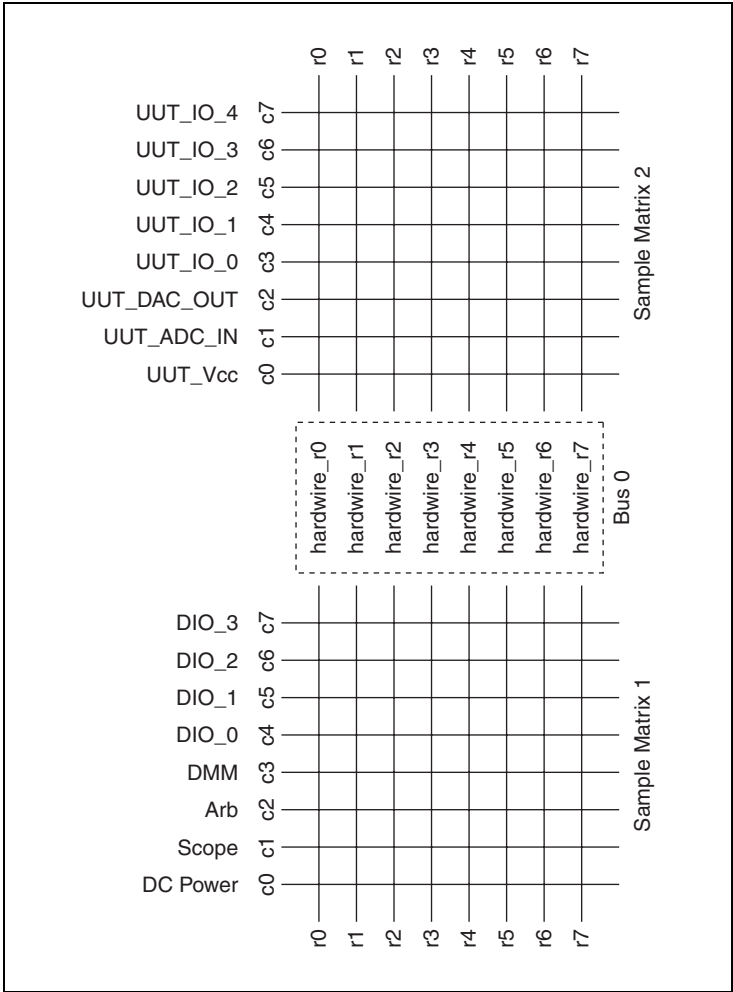

Figure 1. Example Switch System Layout
To acquaint you with the fundamentals of using NI Switch Executive, this tutorial creates an NI Switch Executive virtual device using two 8×8 matrices that operate as one 8×16 matrix. The architecture for the switch system you are creating for this tutorial is shown in Figure 1.
Now that the NI Switch Executive virtual device has been created, you can configure the device. To begin, name your channels based on the configuration in Figure 1.
2. Repeat for `Scope`, `Arb`, `DMM`, `UUT_Vcc`, `UUT_ADC_IN`, and `UUT_DAC_OUT`. Refer to Figure 1 to determine what columns to rename.
Note All intermediate channels between two endpoints must be marked as reserved for routing. Marking a channel as reserved for routing notifies NI Switch Executive that it can use the given channel as needed to complete a route. For example, to connect `c0` to `c1` in the `SampleMatrix1` shown in Figure 1 requires a reserved for routing channel. In this example, `r0`, `r1`, `r2` and so on can all (or each) be a reserved for routing channel.